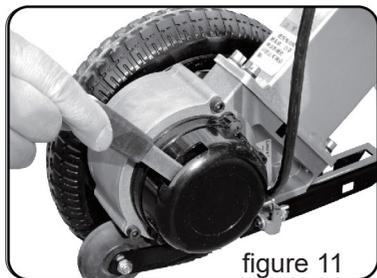

figure 11
5.1.7 Switch the motor lock levers on the motors to the "Electric" mode (figure 11).
2. Switch the motor lock levers to drive mode to make sure that the wheelchair has not been in manual mode (figure 11).
For ease of use, the wheelchair is equipped with two motor lock levers, when you press down the motor lock lever to "manual", the wheelchair will be in manual mode, and can be pushed by hand. When the motor lock lever is pressed upward to "electric", the wheelchair will be on electric mode, and can't be moved by hand (figure 11).